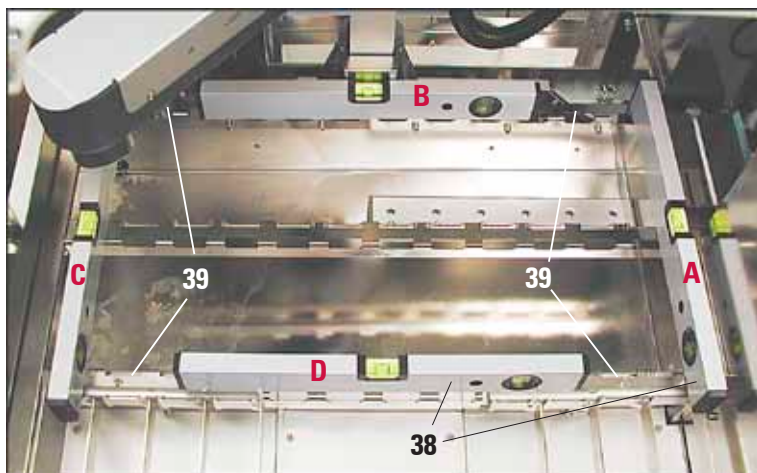

Fig. 22
**Fig. 22 shows all four points (A to D) where the box level must be positioned for leveling the instrument. For leveling, the box level must be placed onto vessel holder frame (39). - Do not place the box level elsewhere.**
- For leveling, position box level (38) **alternately** in positions (A and B) - see Fig. 22 on the vessel holder frame.